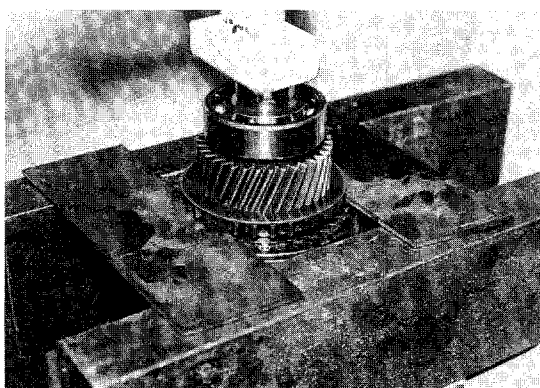

Figure 10-10
1. Place two flat bars no more than a .100 of an inch thick between the reverse gear (49) and synchronizer ring (42). Press on shaft and remove bearing (38), thrust washer (39), reverse gear (49), synchronizer ring (42) and thrust washer (43) (Figure 10-10).
2. Slide clutch hub assembly (45-48) off shaft (44).
3. Place two flat bars no more than .100 inches thick between synchronizer ring (42) and forward gear (41) and press on shaft end using a socket. Remove bearing (38), thrust washer (39), forward gear (41), thrust washer (43) and synchronizer ring (42).